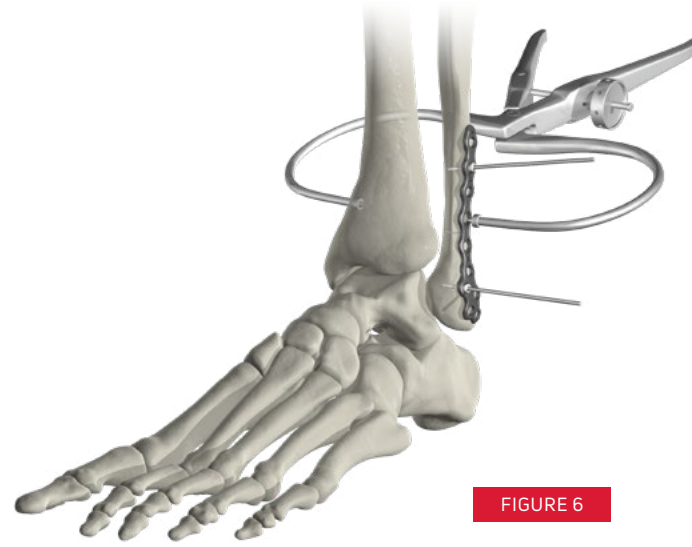

FIGURE 6
6. If syndesmotic fixation is necessary, a Syndesmotic Tenaculum Clamp is available within the lower level of the tray to assist in reduction of the syndesmosis. A small stab incision is made over the distal medial tibia with blunt dissection carried down to bone. Place the olive portion of the clamp into the medial incision and into the distal fibula (**FIGURE 6**). Reduction of the syndesmosis is performed by closing the handles together and utilizing the dial in mechanism to maintain position of the clamp. Placement of one or two 3.5mm non-locking screws (or placement of a flexible syndesmotic fixation device) can be performed following reduction of the syndesmosis. Ensure that the ankle is held in a dorsiflexed position during clamp tightening to prevent over compression of the syndesmosis.